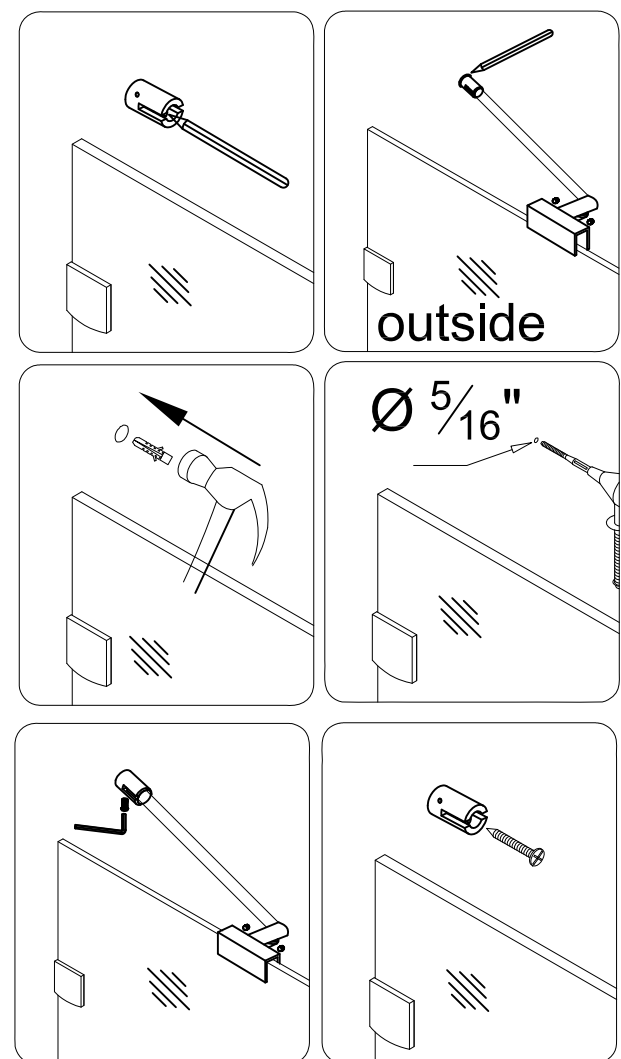

Figure 17
Attach the Support bar (04) to the wall bracket and the Hinged Stationary Glass (01) (with gasket in place) and tighten the set screws to secure in place. See Figure 17 for details.
18. Position the Support bar (04) on the Stationary glass (03). Using a level, check support bar is level and mark the bracket's location on the shower wall.